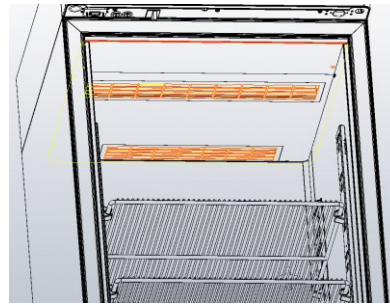

Figure 10. Air Vents at the Top of the Compartment
- Do not block air vents (**Figure 10**).